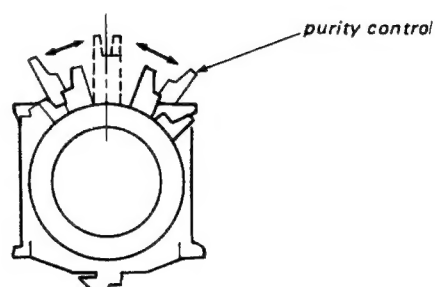

Fig. 3-1.
3. Loosen the deflection yoke mounting screw, and set the purity control to the center as shown in Fig. 3-1.